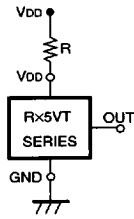

FIG. 9
1. When R×5VT××C (CMOS Output) is used in FIG. 9, this IC may oscillate by the through-type current at the detection when impedance is connected between Power Source VDD and R×5VT VDD Pin. When R×5VT××A (Nch Open Drain Output) is used in FIG. 9, and R becomes excessively large, Detector Threshold may be varied because of the voltage drop of the supply current in the IC itself.